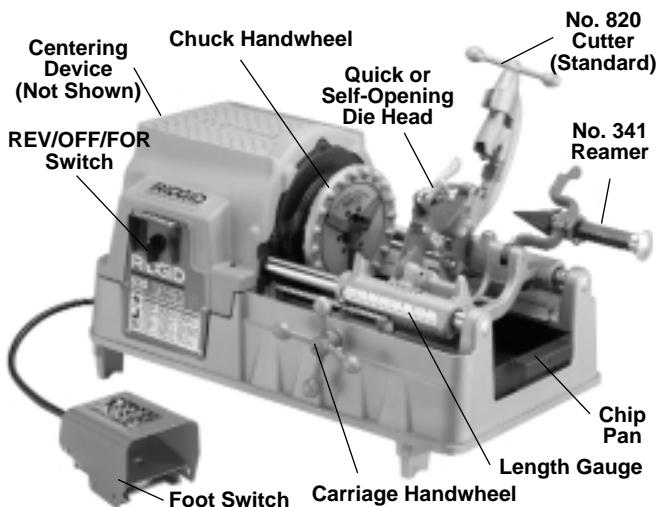

Figure 5 – No. 535 Pipe and Bolt Threading Machine
1. Make sure Threading Machine is unplugged and the directional switch is set to the OFF position (*Figure 5*).
4. Make sure the foot switch is present and attached to the Threading Machine (*Figure 5*).